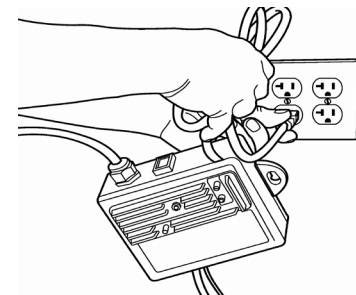

Figure 20
6. Plug the electronic control box plug into GFCI outlet on the wall (Figure 20).
9. Plug the electronic control box plug(s) into GFCI outlet on the wall (Figure 20).